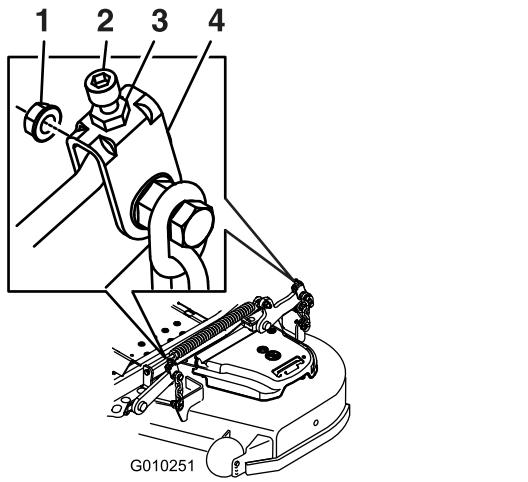
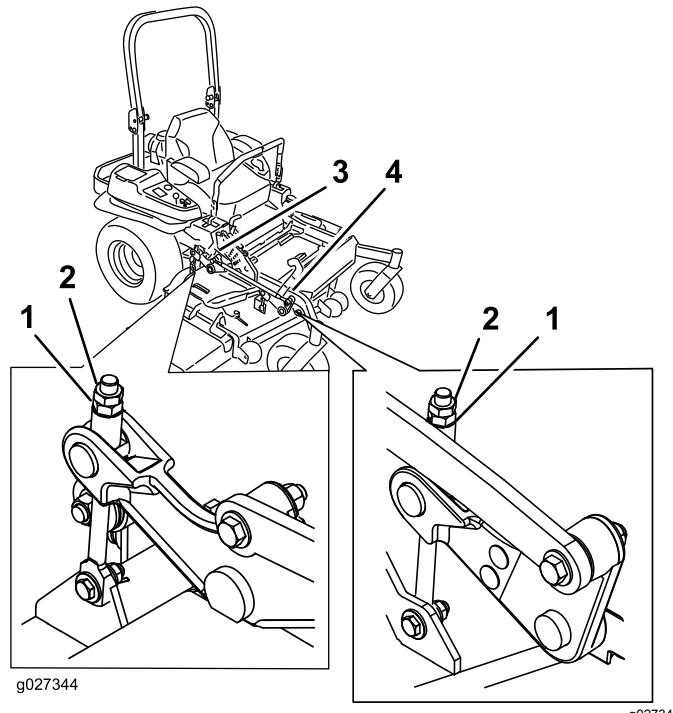

Figure 114
Figure 115
10. Fine-tune the adjustment nut on the front deck-lift assembly by turning it (Figure 114 or Figure 115).
16. Fine tune the screw adjuster by turning it to get 8.3 mm (3-1/4 inches) height (Figure 115). To increase the height, turn the adjustment nut clockwise; to decrease, turn counterclockwise.